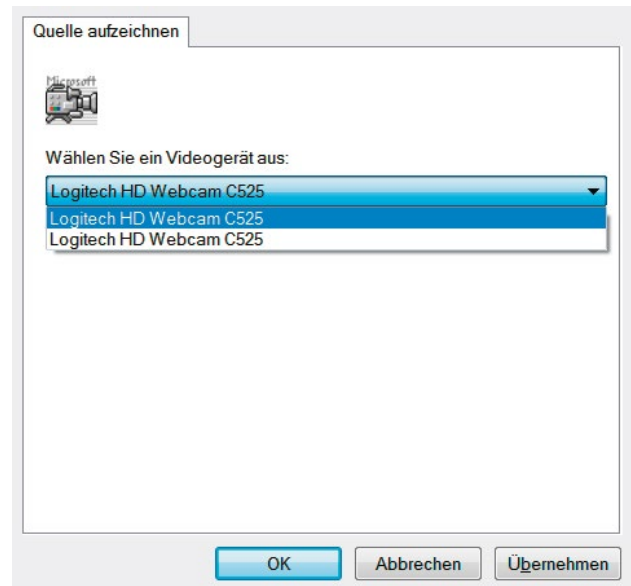

Figure 3: Camera selection window
10. On a system with multiple cameras, the window Figure 3 will pop up. Select the camera you want to use.